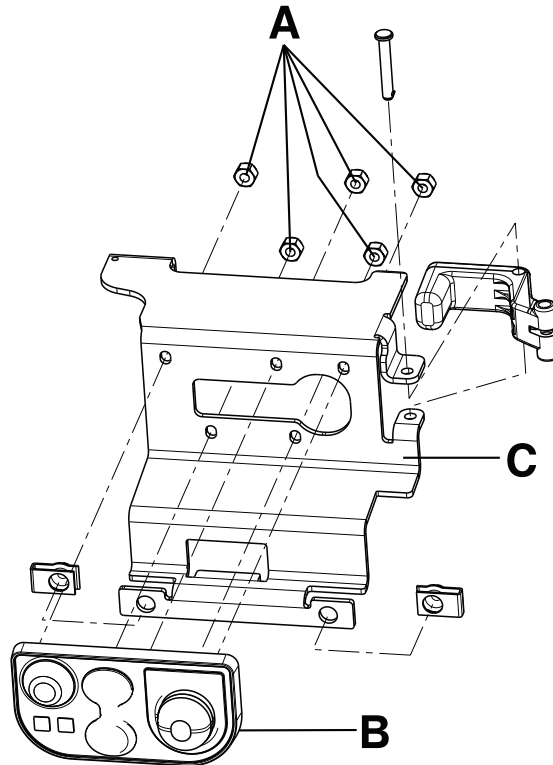

Figure 18 – Master On/Off switch and manual release button bracket assembly
2. Using a 1/32" nut driver, remove the five Fiberlock hex nuts (A) that secure the master On/Off switch (B) to the manual release button bracket (C). Discard the master On/Off switch (Figure 18). Save the nuts.